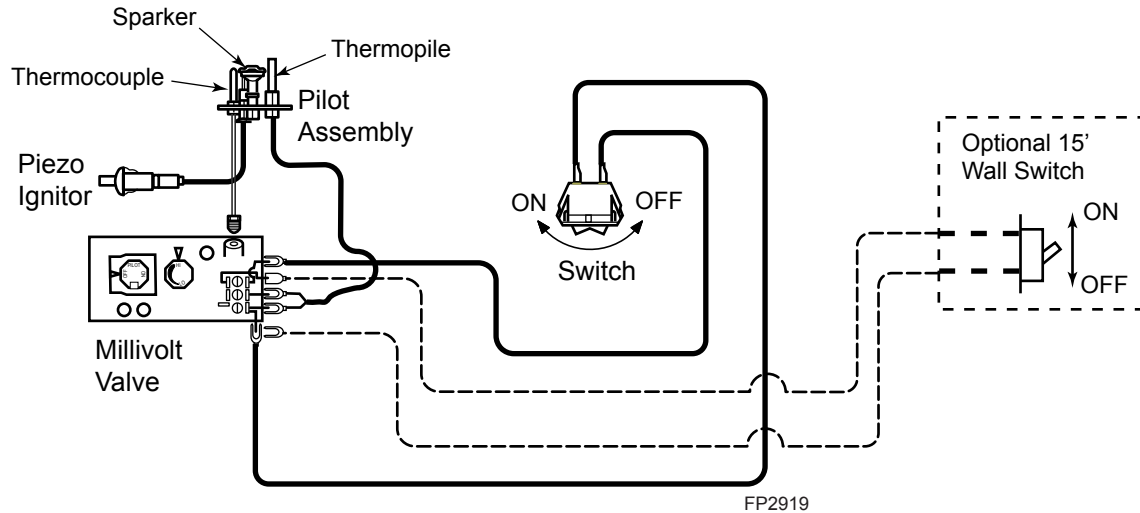

Figure 36 -
A remote wall switch and up to fifteen (15) feet of 18 Ga. wire may be used with this appliance. Attach the wall switch in a junction box at the desired location on the wall. *Figure 36.* Do not extend beyond the wall switch wire length provided.